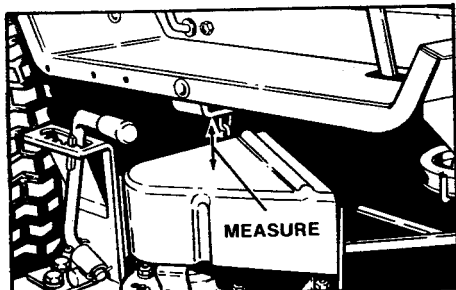

Figure 36. Measurement - Lift Lever
2. Measure the distance between top of pulley cover and bottom of upstop bracket on right-hand side (figure 36).